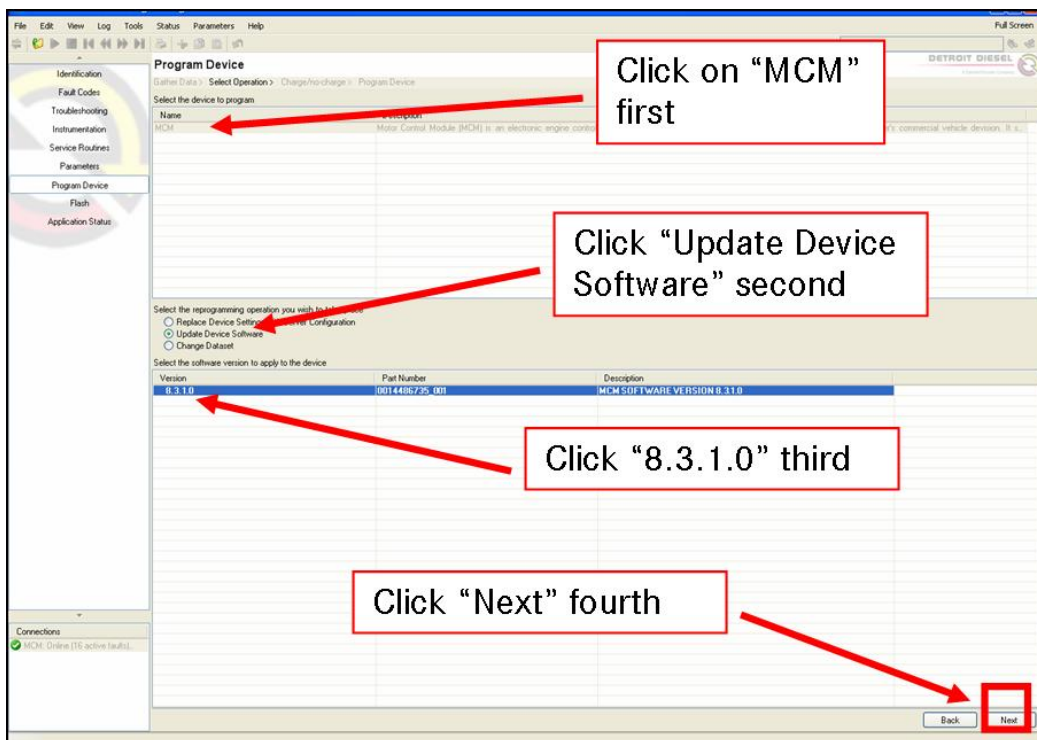

Figure 6
- g. Click on the MCM as the device to program, click the button to select "Update Device Software", click on software "8.3.1.0", click "Next." See Figure 6.